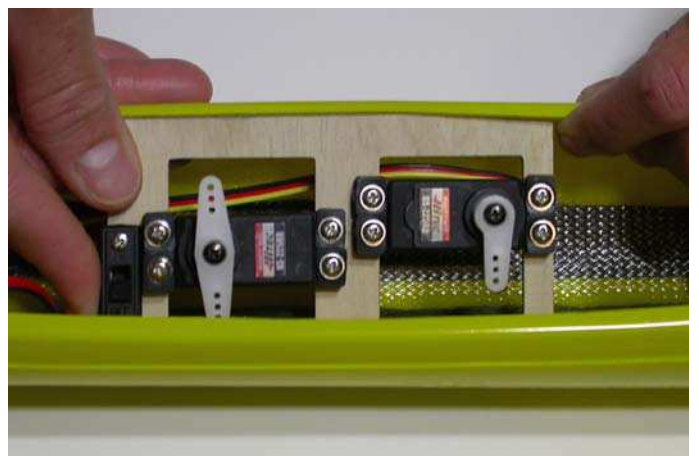

Fig.90: Insert the servos frame group.
- keeping the fuselage wide with the fingers, insert the servos frame group (see figure 90);